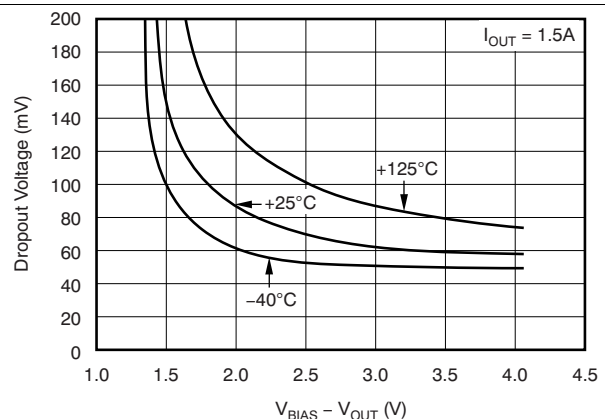

Figure 6. V_{IN} Dropout Voltage vs $(V_{BIAS} - V_{OUT})$ and Temperature (T_J)
(1) Adjustable devices tested at 0.8 V; resistor tolerance is not taken into account.
(2) Dropout is defined as the voltage from V_{IN} to V_{OUT} when V_{OUT} is 3% below nominal.
(3) 3.25 V is a test condition of this device and can be adjusted by referring to Figure 6.